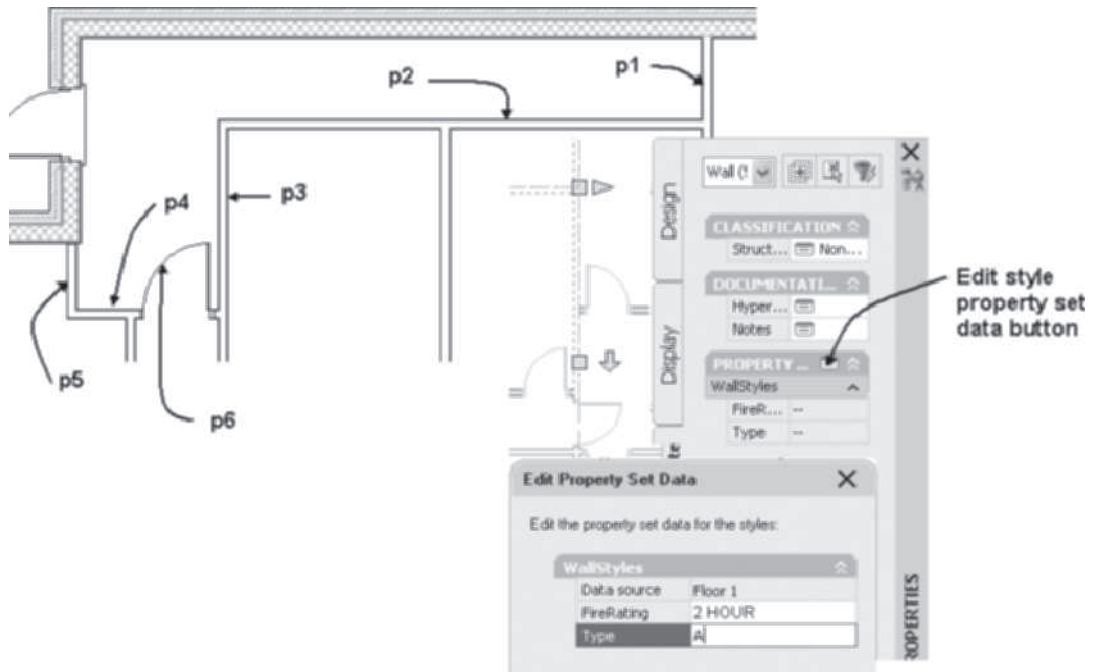

FIGURE 11.104 Wall selection and edit for a theme table
6. Select the **Stud 4 GWB-0.625 2 Layers Each Side [Stud-102 GWB-018 2 Layers Each Side]** tool of the **Walls** palette, right-click, and choose **Apply tool Properties to > Wall**. Select the walls at **p1**, **p2**, **p3**, **p4**, and **p5** as shown in Figure 11.104. Press ENTER to end the selection, but retain the selection for the next step.
7. Retain the selection of the walls and select the **Extended Data** tab of the Properties palette. Click the **Edit style property set data** button to open the **Edit Property Set Data** dialog box. Set Edit FireRating = **2 HOUR** and Type = **A** as shown in Figure 11.104. Click **OK** to dismiss the **Edit Property Set Data** dialog box. Press ESC to end the selection.
16. Select the door at **p6** as shown in Figure 11.104. Choose the **Extended Data** tab of the Properties palette. Edit FireRating = **2 HOUR**. Save and close the drawing.